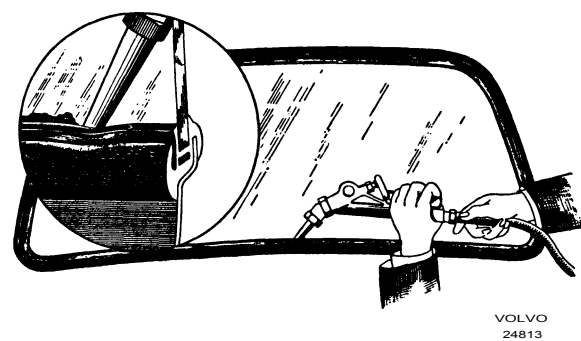

Fig. 62. Applying sealing compound
7. Seal the joints between the rubber strip and windscreen and rubber strip and sheet metal with sealing compound using a gun with a flat nylon nozzle as shown in Fig. 62. Make sure that the sealing compound fills the joint well. Scrape off surplus sealing compound and wash the windscreen and sheet metal with naphtha and then polish clean.